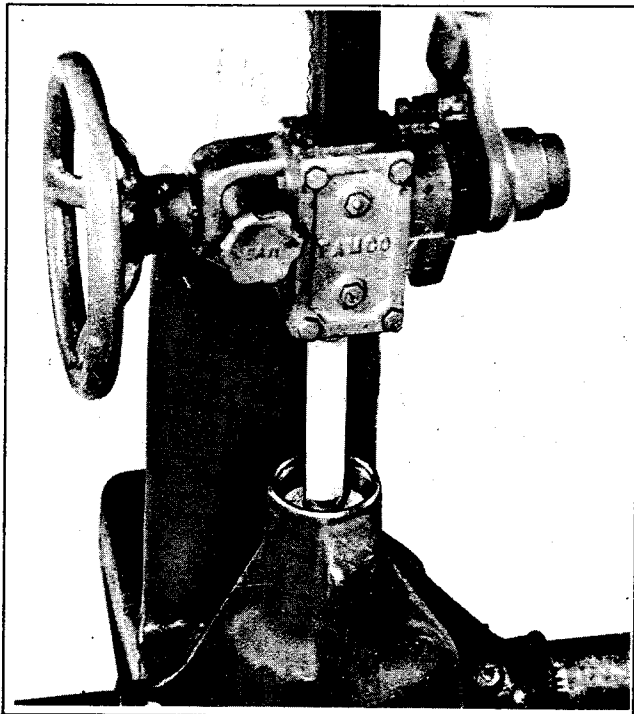

Figure 2B-27. Installing Front Bearing Cup
13. Press drive pinion rear bearing cup (32) and shim pack (33) in carrier, using tool similar to one shown in Figure 2B-27.